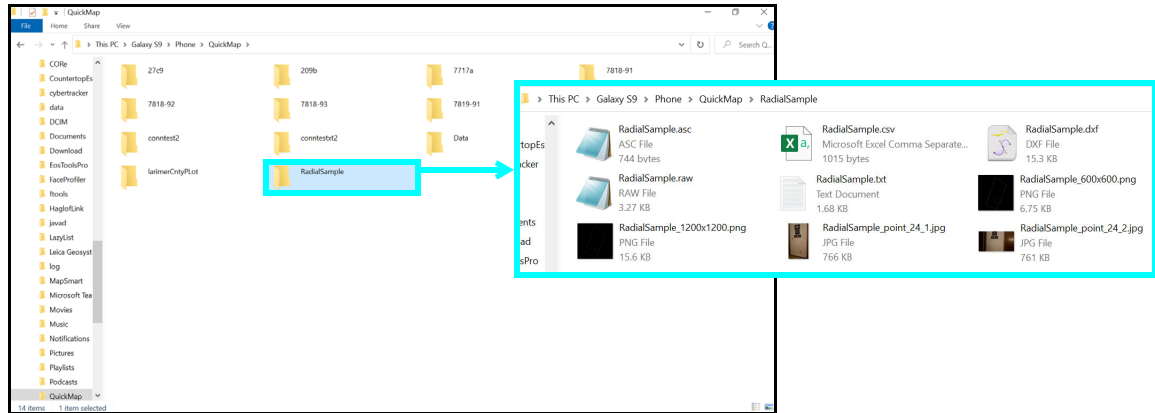

Figure 81
7. Double-click the folder that coincides with the survey name and the saved survey reports will display (Figure 81). To delete all saved reports on the tablet, highlight all the survey folders and right-click/delete with your mouse.